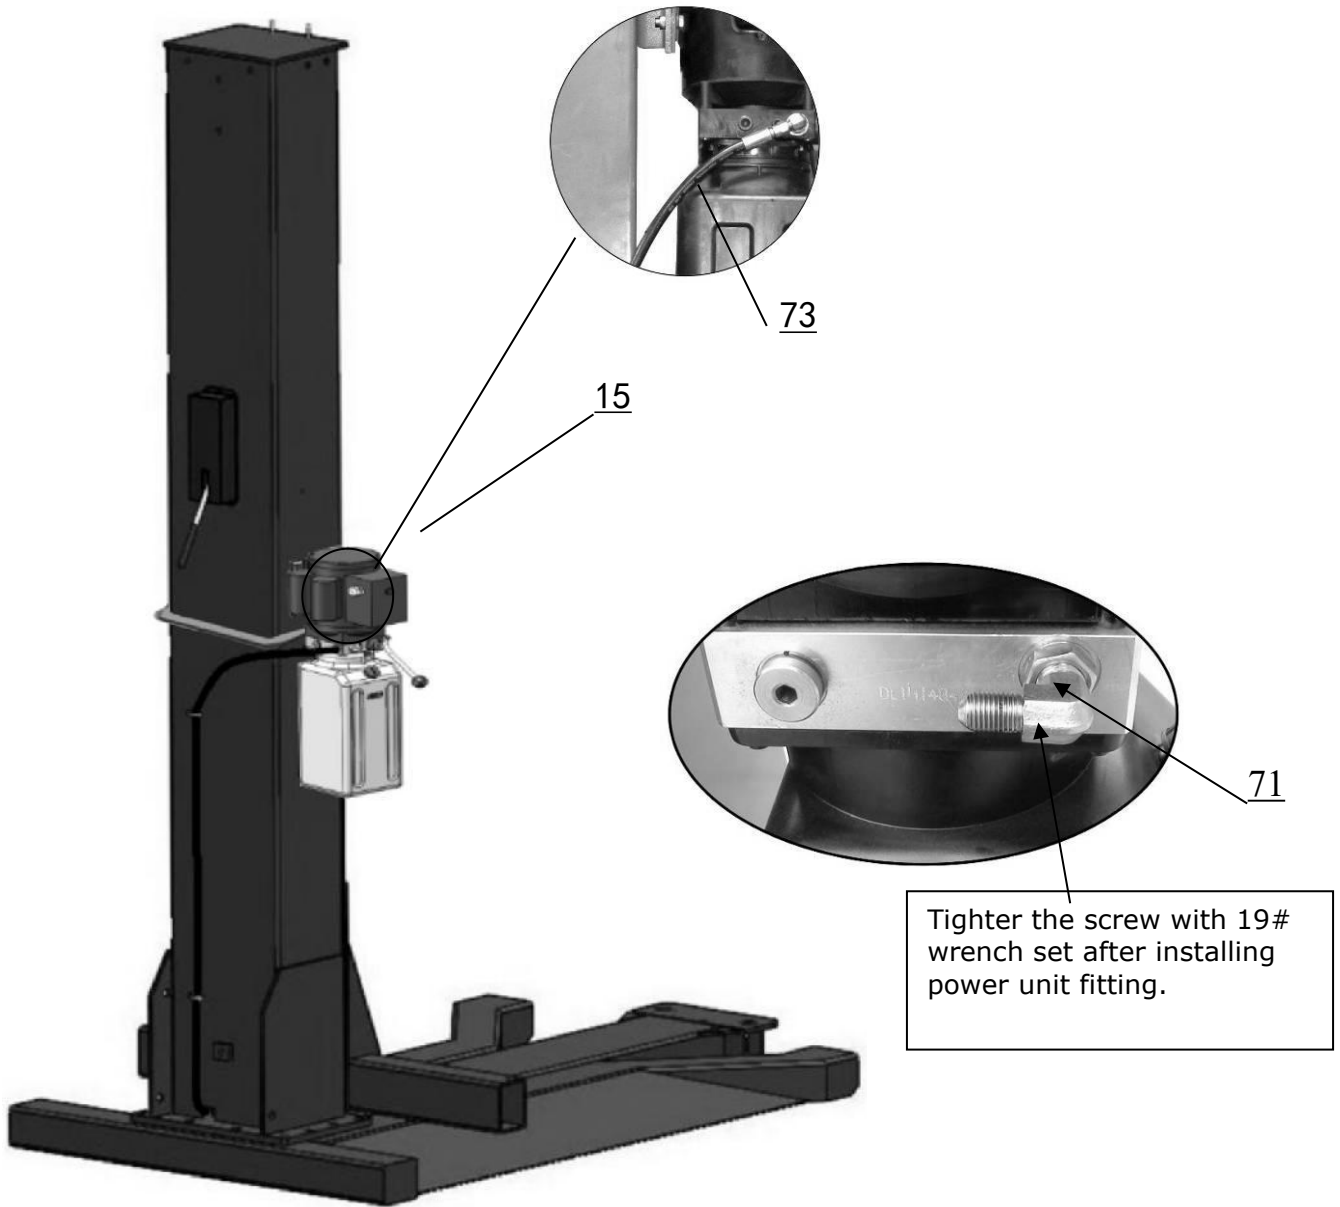

Fig.14
E. Install power unit and oil hoses (See Fig.14)